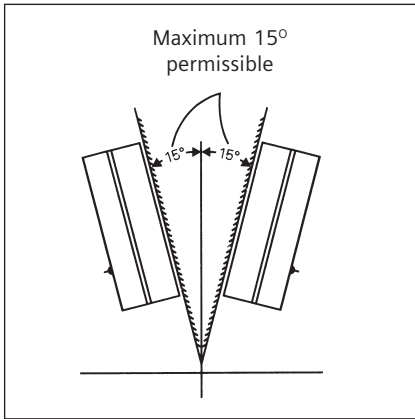

Fig. 4 : Maximum permissible displacement from vertical plane
- Mount the starter on a vertical wall / plate free from vibrations with proper nuts and bolts. Refer fig. 9 for mounting dimensions and fig. 4 for permissible displacement.